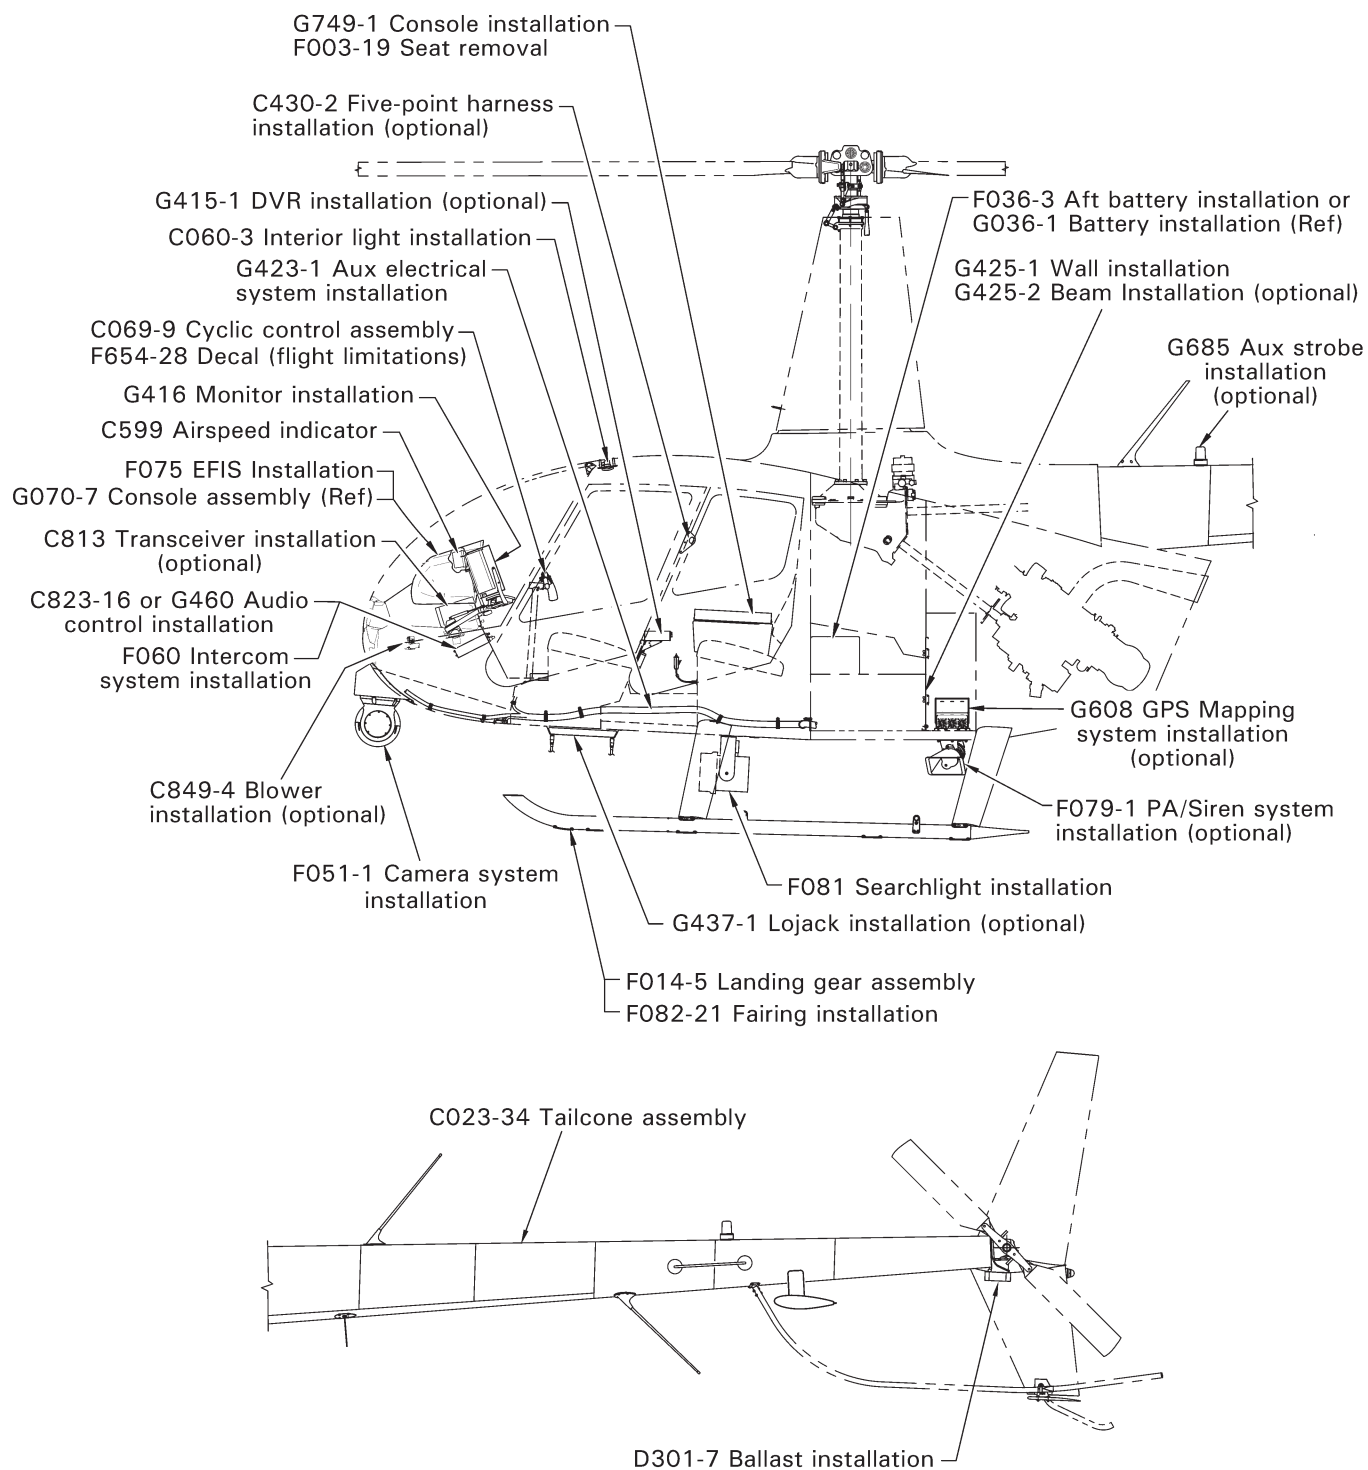

FIGURE 90-1 POLICE VERSION
Refer to Figure 90-1. The C023-34 tailcone assembly has provisions for two upper-mounted antennas and two lower-mounted antennas and NAV. Refer to § 6-80 for antenna locations.
Refer to Figure 90-1. The C060-3 interior light installation is installed above the observer's seat, and has a floor-mounted switch.
Refer to Figure 90-1. On earlier Police helicopters, the C069-9 cyclic control assembly was modified for clearance with the LCD monitor. The copilot removable grip assembly (transmit wiring) was omitted and the C058-11 grip weldment was plugged. A second grip was installed on the cyclic stick.
Refer to Figure 90-1. The C430-2 five-point harness installation was optional equipment for earlier Police helicopters, and now is optional for all R66 Turbines (see § 6-10 for version descriptions).
1. Refer to Figure 90-1. Turn battery & avionics switches off and pull out (7.5 amp) circuit breaker at panel.
1. Refer to Figure 90-1. Turn battery & avionics switches off and pull out (10 amp) circuit breaker at panel.
1. Refer to Figure 90-1. Turn battery switch off. Pull-out associated circuit breaker.
1. Refer to Figure 90-1. Turn battery switch off & pull-out associated circuit breaker.
Refer to Figure 90-1. The C849-4 blower installation is optional equipment for the Police Version.